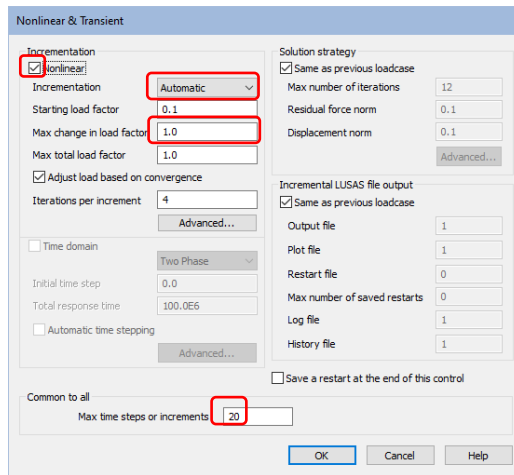

Figure 47: Nonlinear parameter settings
- In the Analyses  treeview, right-click on **1st excavation** and select **Controls > Nonlinear and transient....** On the dialog ensure that the tickbox **Nonlinear** is checked and select **Automatic** from the **Incrementation** drop-down list. Set the **Max change in load factor** to **1.0** and finally the **Max time steps or increments** to **20** (figure 47).
- In the Analyses  treeview, right-click **Install upper anchor** and select **Controls > Nonlinear and transient...**. On the dialog ensure that the tickbox **Nonlinear** is checked and select **Automatic** from the **Incrementation** drop-down list. Set the **Max change in load factor** to **1.0** and finally the **Max time steps or increments** to **20** (figure 47).
- In the Analyses treeview, right-click on **1st de-watering** and select **Controls > Nonlinear and transient...** On the dialog ensure that the tickbox **Nonlinear** is checked and select **Automatic** from the **Incrementation** drop-down list. Set the **Max change in load factor** to **1.0** and finally the **Max time steps or increments** to **20** (figure 47).
- In the Analyses  treeview, right-click on the **2nd Excavation** and select **Controls > Nonlinear and Transient**. Check the **Nonlinear** tickbox. Set **Incrementation** to **Automatic**, **Max change in load factor** to **1.0** and **Max time steps or increments** to **20** and click **OK** (figure 47).
list. Set the **Max change in load factor** to **1.0** and finally the **Max time steps or increments** to **20** (figure 47).
- In the Analyses treeview, right-click on **2nd de-watering** and select **Controls** > **Nonlinear and transient....** On the dialog ensure that the tickbox **Nonlinear** is checked and select **Automatic** from the **Incrementation** drop-down list. Set the **Max change in load factor** to **1.0** and finally the **Max time steps or increments** to **20** (figure 47).
the **Max change in load factor** to **1.0** and finally the **Max time steps or increments** to **20** (figure 47).